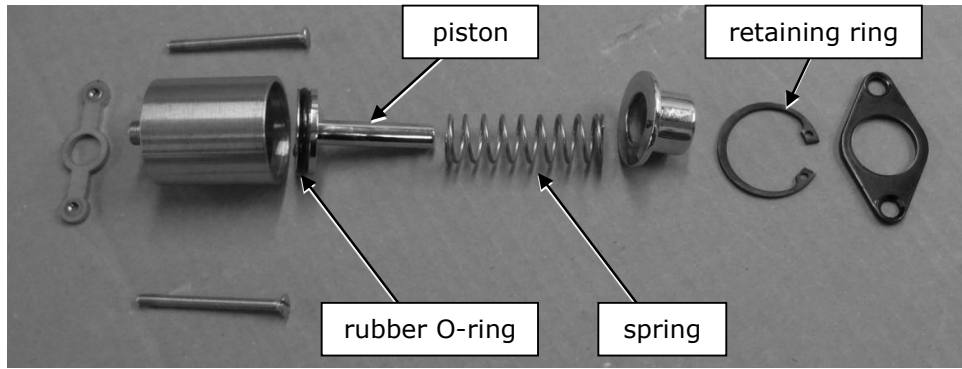

Figure 25 . Exploded view of progressive pre-infusion cylinder.
7. Remove the retaining ring on the front of the cylinder (see figure 25).